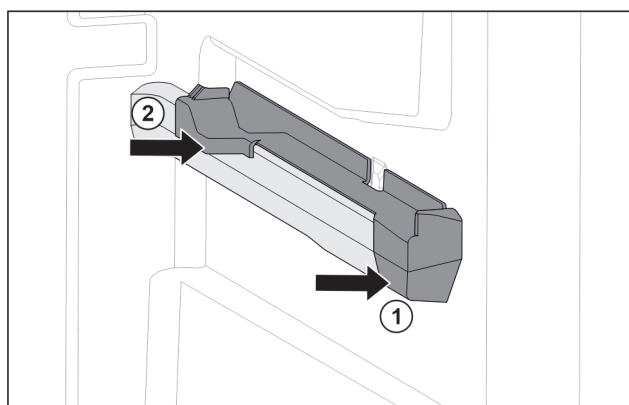

Fig. 131 Attachment on the right moulded rib
- Position attachment on moulded rib at the front. Fig. 131 (1)
- Press on attachment at the back. Fig. 131 (2)